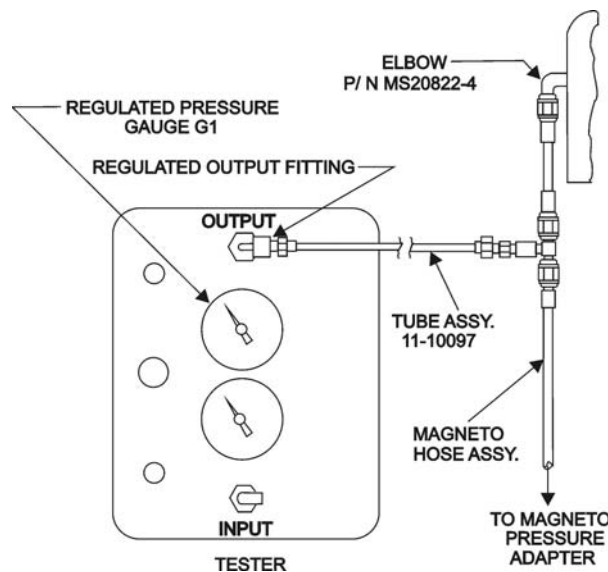

Figure 1. Connections for Operation Check
A. Operation Check (Figure 1):
- A3. Connect tube assembly P/N 11-10097 to regulated output fitting of air flow tester. See Figure 1.